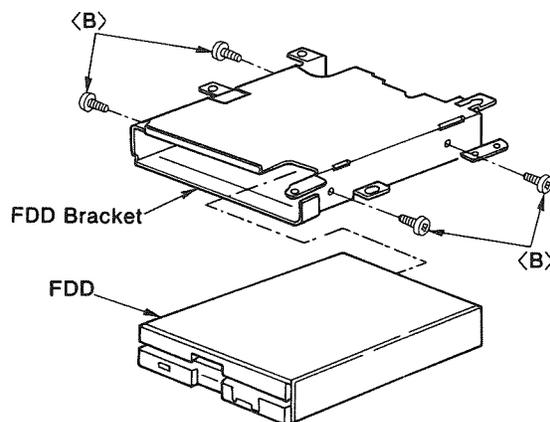

Figure 19
- (4) Remove four screws  ( $3 \times 4$  mm) from the FDD bracket and then remove the FDD bracket as shown in Figure 19.